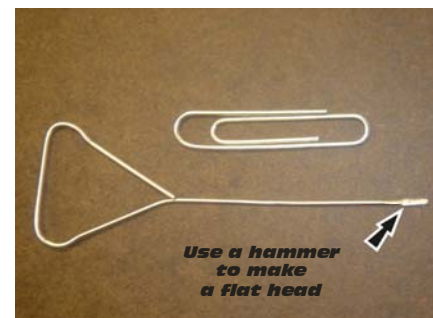

Fig. 4
5. Remove #5 wire (Brown/Black Stripe) by inserting a very small flat head screwdriver into the pin hole and gently pry down to unlock the wire and pull the wire out from the rear of the plug. (Note: If you do not have a small flat head screwdriver, you can make one using a regular paper clip. See Fig. 4)